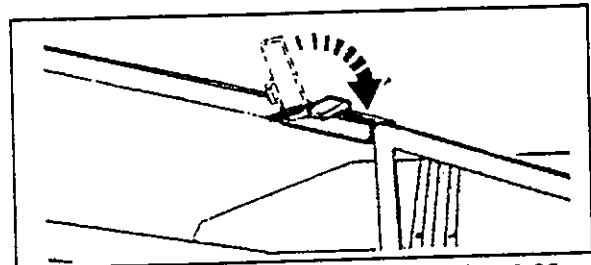

fig. 4-33
8. Put the locking bolt in position (fig. 4-33) and lift the machine higher for transport.